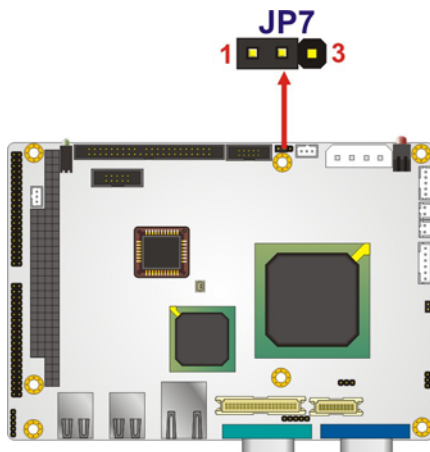

Figure 5-5: CF Card Setup Jumper Location
- Jumper Location:** See **Figure 5-5**
The CF Card Setup jumper location is shown in **Figure 5-5**.